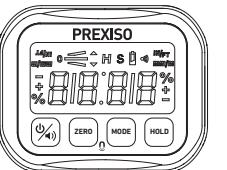

FIG. 1
- a. Turn off the equipment. Put the equipment on a flat and smooth solid surface. (FIG. 1).